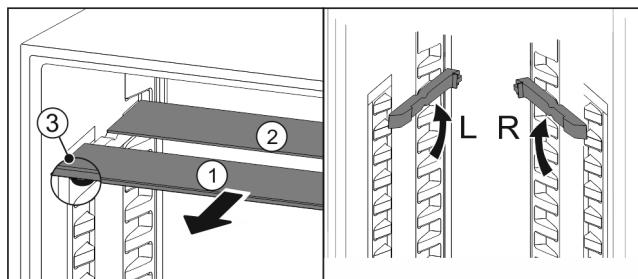

Fig. 94
- ▶ Pull the glass panels out Fig. 94 (1) from the front, one at a time.
- ▶ The glass panel Fig. 94 (1) and trim strip are at the front.
- ▶ The stops Fig. 94 (3) point down.